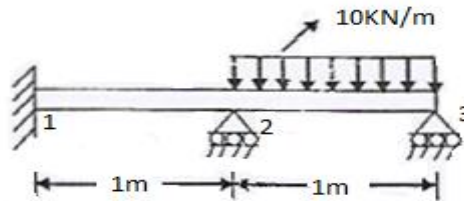

Figure.2
4. For a beam and loading shown in Figure.2, determine the slopes at 2 and 3 and the vertical deflection at the mid point of the distributed load.